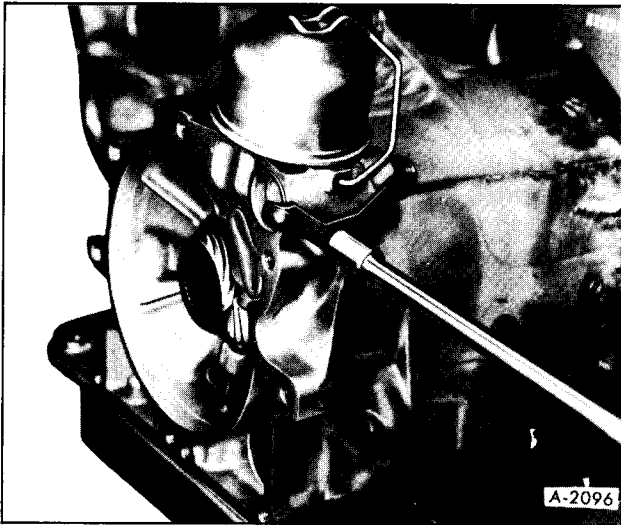

Figure 21—Removing Speedometer Driven Gear Retainer
2. Remove the speedometer driven gear attaching screw and retainer clip. (figure 21)